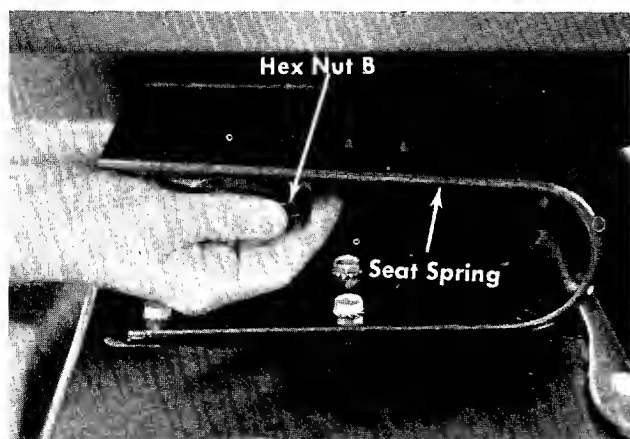

**FIGURE 2. STEERING WHEEL ASSEMBLY**
Step 3. Secure with Belleville washer and hex nut. See figure 2.
Step 4. Press the cap on the steering wheel by hand. See figure 2.